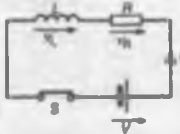

Figure 18.9
- (a) The circuit diagram for a series connected L - R circuit is shown in Fig. 18.9. When switch S is closed, then by Kirchhoff's voltage law: